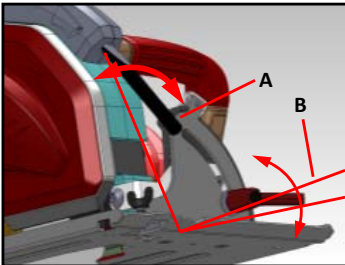

Fig.12
2. Adjusting the laser indication direction to be same line as cutting line. Adjusting tooling: parallel screw driver (A) Fig.12